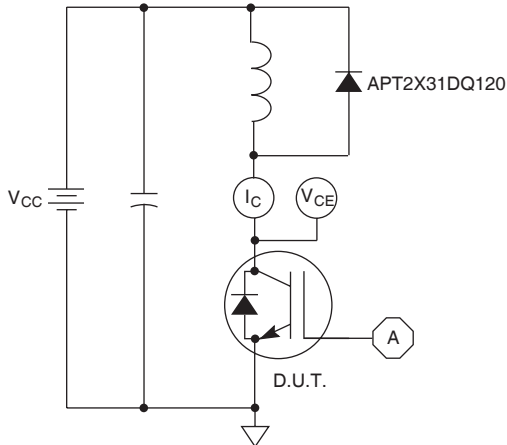

Figure 21, Inductive Switching Test Circuit
① Repetitive Rating: Pulse width limited by maximum junction temperature.
② For Combi devices,  $I_{ces}$  includes both IGBT and diode leakages
③ See MIL-STD-750 Method 3471.
④  $E_{on1}$  is the clamped inductive turn-on energy of the IGBT only, without the effect of a commutating diode reverse recovery current adding to the IGBT turn-on loss. Tested in inductive switching test circuit shown in figure 21, but with a Silicon Carbide diode.
⑤  $E_{on2}$  is the clamped inductive turn-on energy that includes a commutating diode reverse recovery current in the IGBT turn-on switching loss. (See Figures 21, 22.)
⑥  $E_{off}$  is the clamped inductive turn-off energy measured in accordance with JEDEC standard JESD24-1. (See Figures 21, 23.)
⑦  $R_G$  is external gate resistance, not including  $R_{G(int)}$  nor gate driver impedance. (MIC4452)